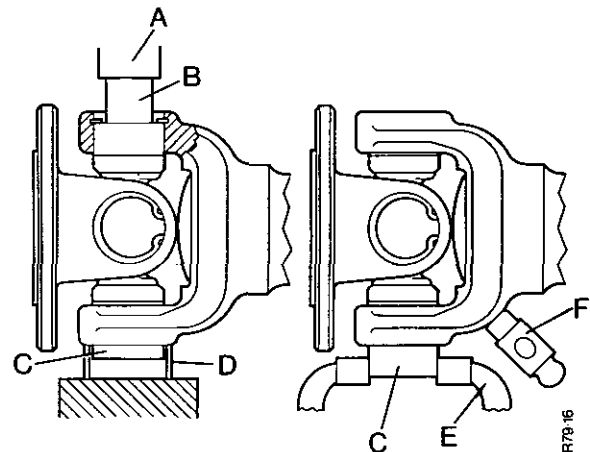

FIGURE 30. REMOVING CUPS FROM HALF SHAFT YOKES
6. *Cups without plugs must be removed by pressing on one cup to push the opposite cup out. See Figure 30.*